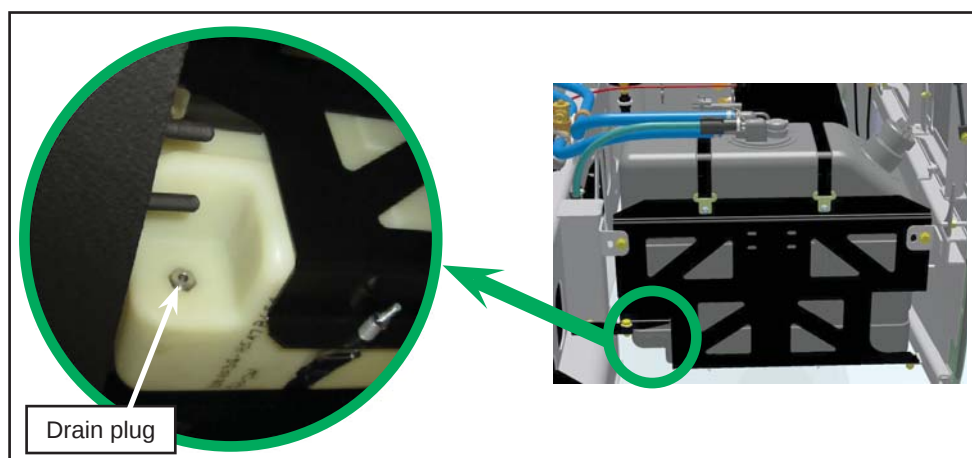

Figure 1 - DEF Tank Drain Plug
1.3. Locate the drain plug of the diesel exhaust fluid tank. See Figure 1.